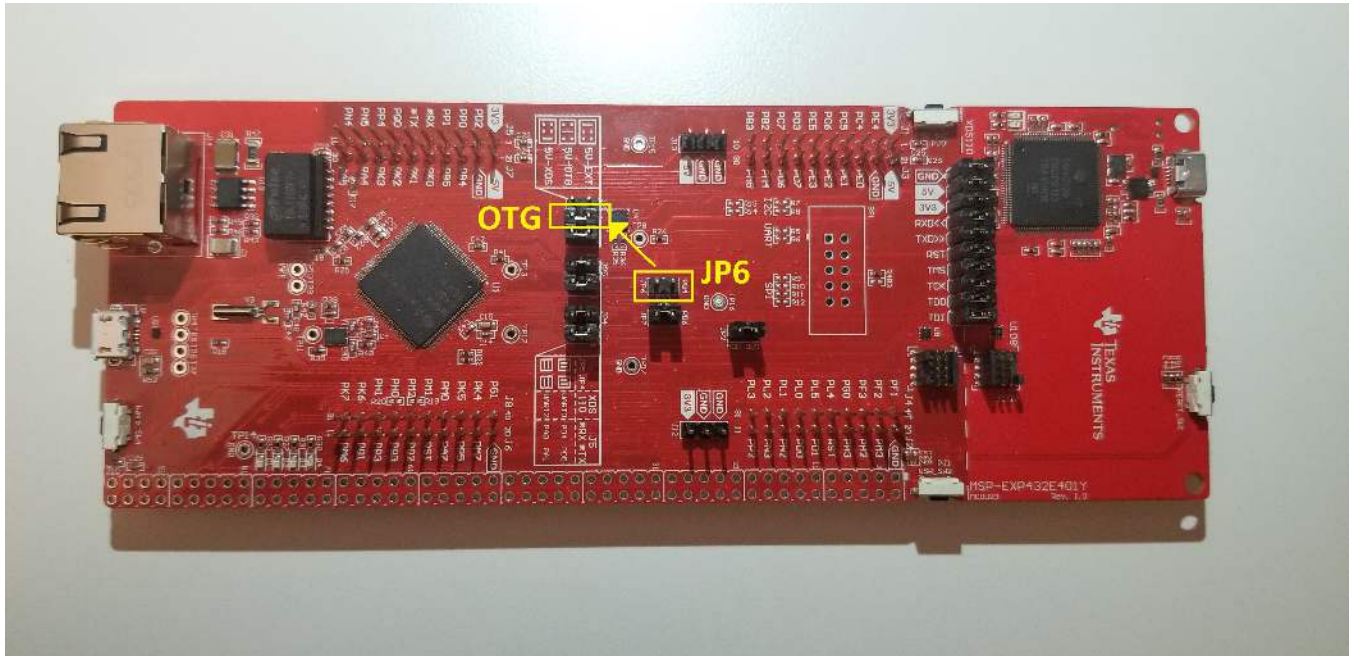

Figure 4. MSP432E401Y LaunchPad™ 5V-OTG Jumper
1. On the MSP432E401Y LaunchPad™, remove jumper JP6 from its default position and place this jumper on the JP1 jumper, as shown in Figure 4, at location 5V-OTG.